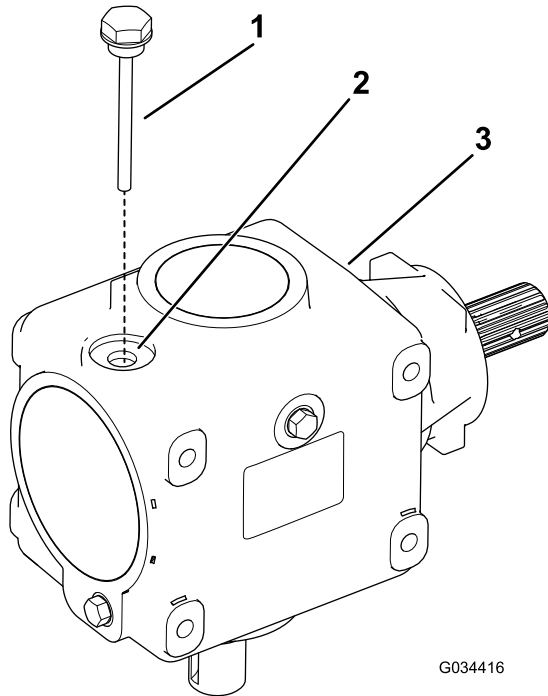

Figure 5
1. Remove the dipstick from the top of the gearbox (Figure 5).
3. Install the dipstick into the port (Figure 5) and tighten it.